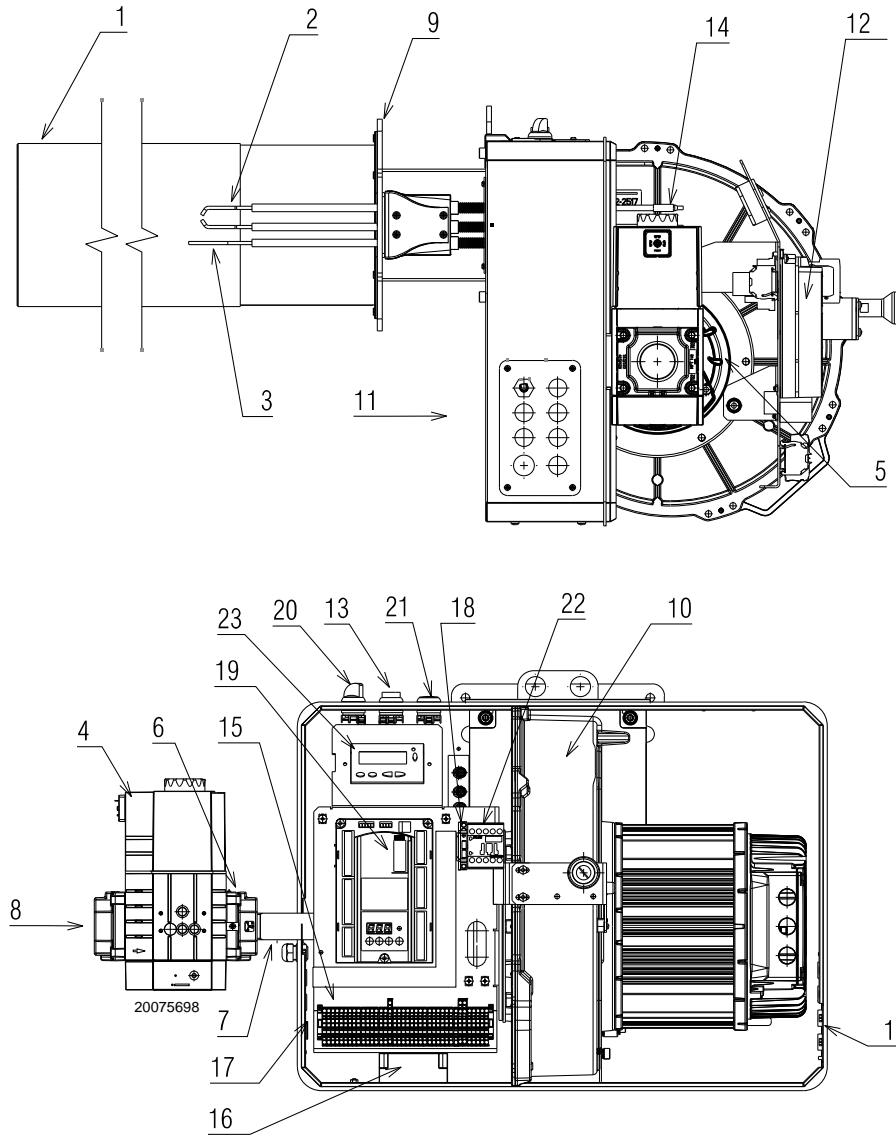

Fig. 2
(1) Reference conditions: Room temperature 20°C - Gas temperature 15°C - Barometric pressure 1013 mbar - Altitude 0 m a.s.l.
(2) Input gas pressure 8)(Fig. 2) with zero pressure in combustion chamber and at maximum burner output.
(3) Sound pressure measured in manufacturer's combustion laboratory, with burner operating on test boiler and at maximum rated output. The sound power is evaluated, in line with the regulations, on a spherical surface centred on the burner and with a radius of 1 metre.
when the push-button 13)(Fig. 2) lights up, it indicates that the burner is in lockout.